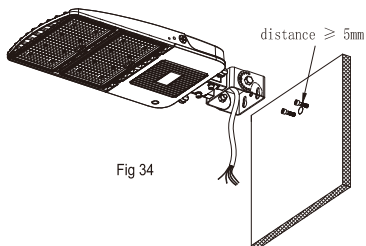

Fig 34
Step 5: Insert the lamp Type D bracket into the screw head and tighten the screw with a wrench, as shown in Fig. 34